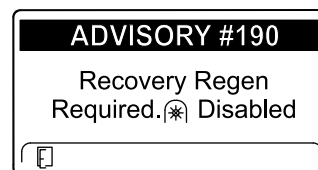

Figure 70
- Recovery regeneration required—power takeoff disabled ADVISORY #190 (Figure 70)